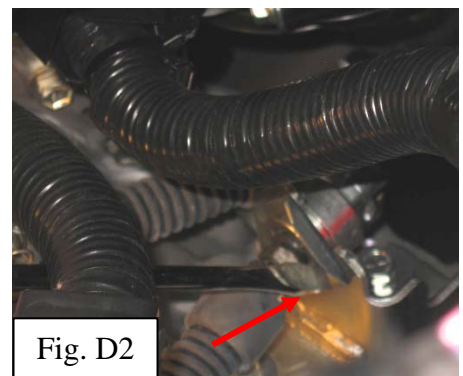

Fig. D2
2. Remove U-clip from shift cable bracket (Fig. D2) with a large flat blade screwdriver.